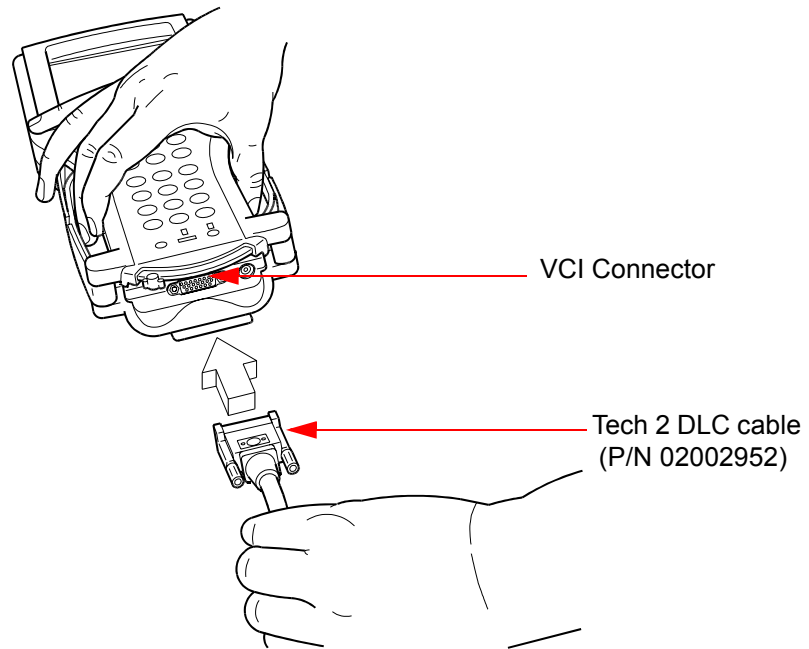

FIGURE 3-3. Connection of Tech 2 DLC Cable to the VCI Connector
2. Attach the Tech 2 DLC cable (P/N 02002952) to the VCI connector (Figure 3-3).